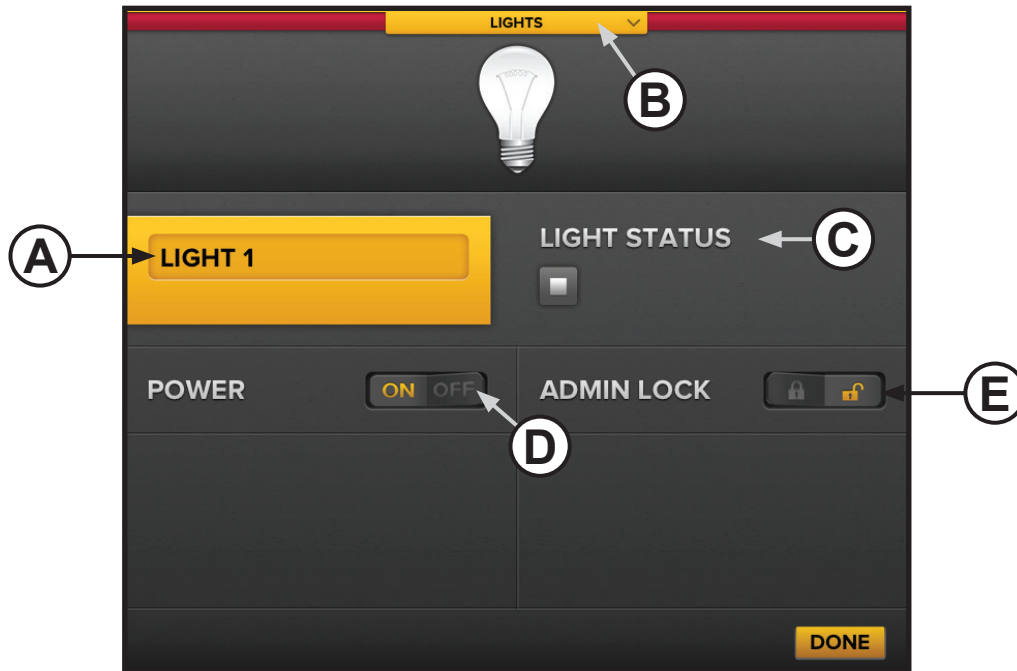

Figure 1—Light settings page
3. Select the light. The light settings page appears (Figure 1).
4. Adjust the settings as necessary, and then touch **Done**. See Figure 1 below for details.